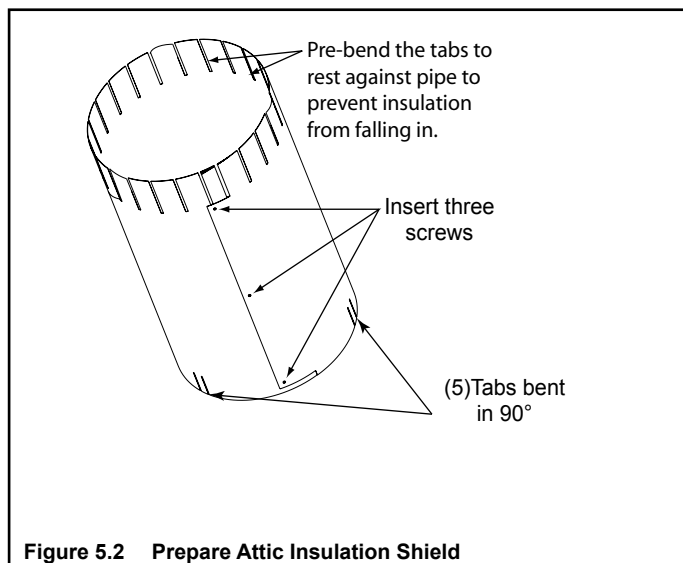

Figure 5.2 Prepare Attic Insulation Shield
- Refer to Figures 5.2, 5.3, and 5.4.